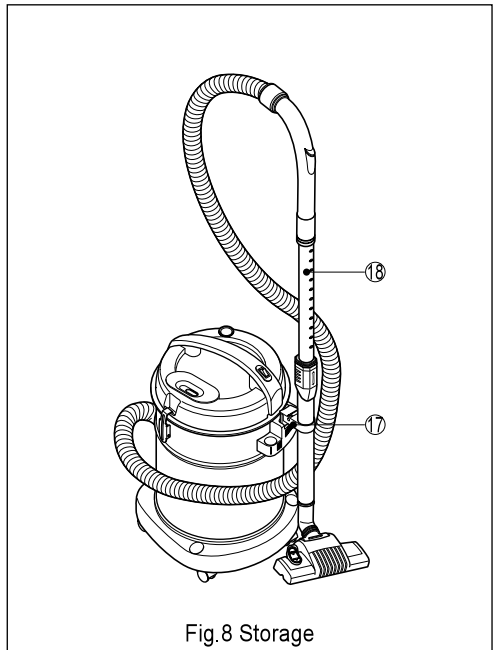

Fig.8 Storage
- Coil the hose around the telescopic pipe ⑱ to make it compact and stable and rest the telescopic pipe on the pipe rest ⑰ as shown in Fig. 8.